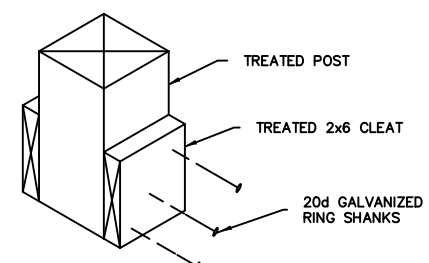

Figure 202-2
9. Nail the 2x6 treated cleats to the bottom of post with (3) 20d galvanized R.S. nails per cleat. See figure 202-2.